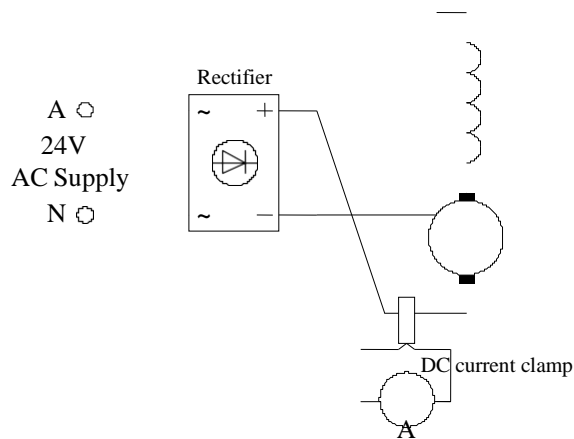

Figure 2
4. Reverse the DC supply to the motor circuit terminals as in Figure 2.